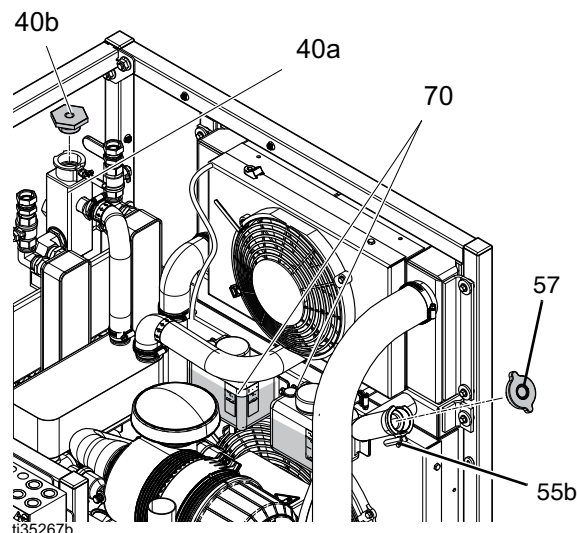
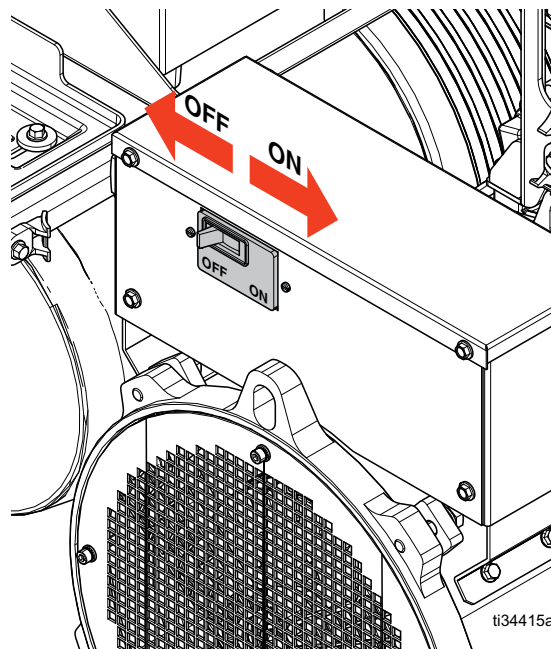

FIG. 7
FIG. 8: Main 90 A Circuit Breaker Power Switch
10. When the coolant reaches an operating temperature of 185 °F (85 °C) or higher, turn the main 90 A circuit breaker (229) to off. See FIG. 8.
**NOTE:** When the manual coolant valve switches are in the off position, the load center (502) LEDs only turn on when the system opens the valves during normal operation.
2. Remove the engine coolant fill cap (57).
3. Fill the engine coolant fill port with coolant. Fill to the engine coolant expansion port barb fitting (55b). See FIG. 7, page 14.
4. Replace the engine coolant fill cap (57).
9. Turn the main 90 A circuit breaker (229) to on. See FIG. 8, page 14.
11. When the coolant reaches an operating temperature of 185 °F (85 °C) or higher, turn the main 90 A circuit breaker to off. See FIG. 8, page 14.